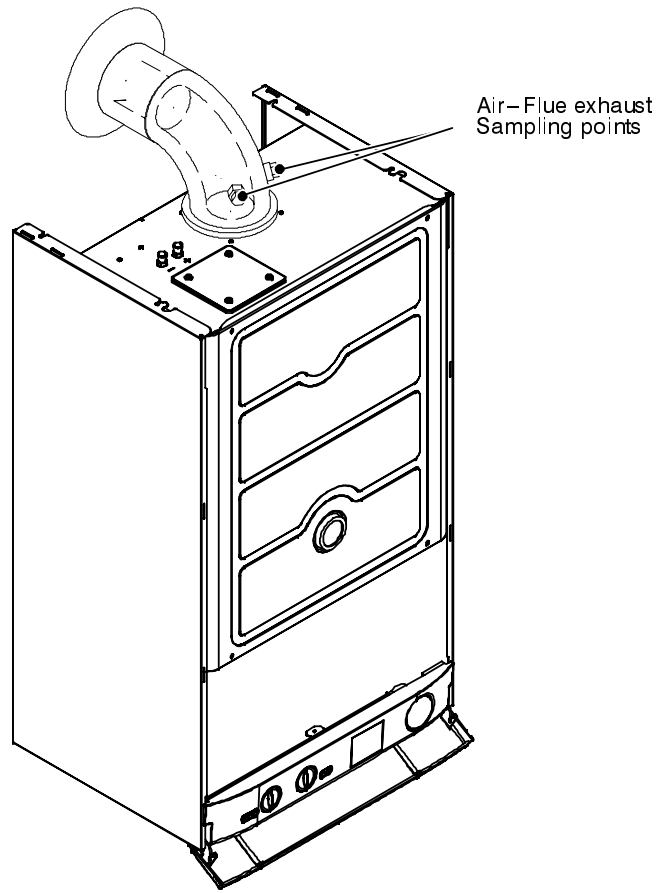

Fig. 9.5
- 2 Remove the plugs indicated in Fig. 9.5.